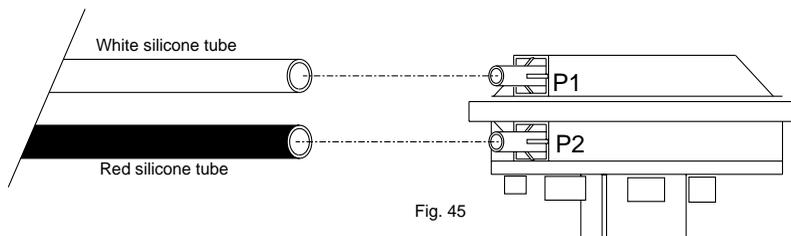

Fig. 45
- Remove the two screws securing the air collection plate (fig. 45), and withdraw the plate complete with the air pressure switch (Take care not to lose «P» clip).